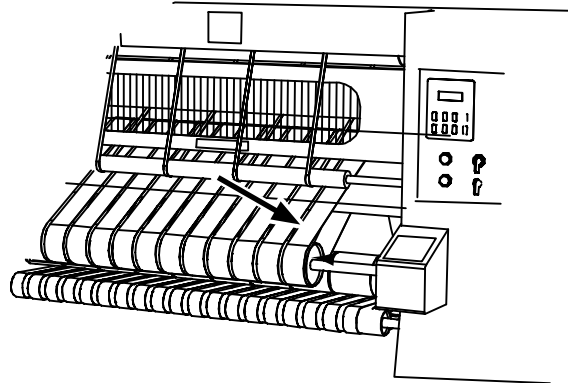

Figure 2-19: Measure the ironer feed ribbon speed.
5. Repeat Steps 4 and 5 with the feed ribbon drive roll (Figure 2-19).